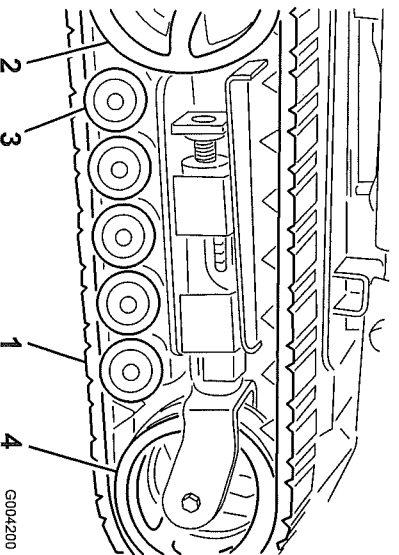

Figure 43
**Important:** Ensure that you fully clean the road wheels, the tension wheel, and the drive sprocket (Figure 43). The road wheels should rotate freely when clean.